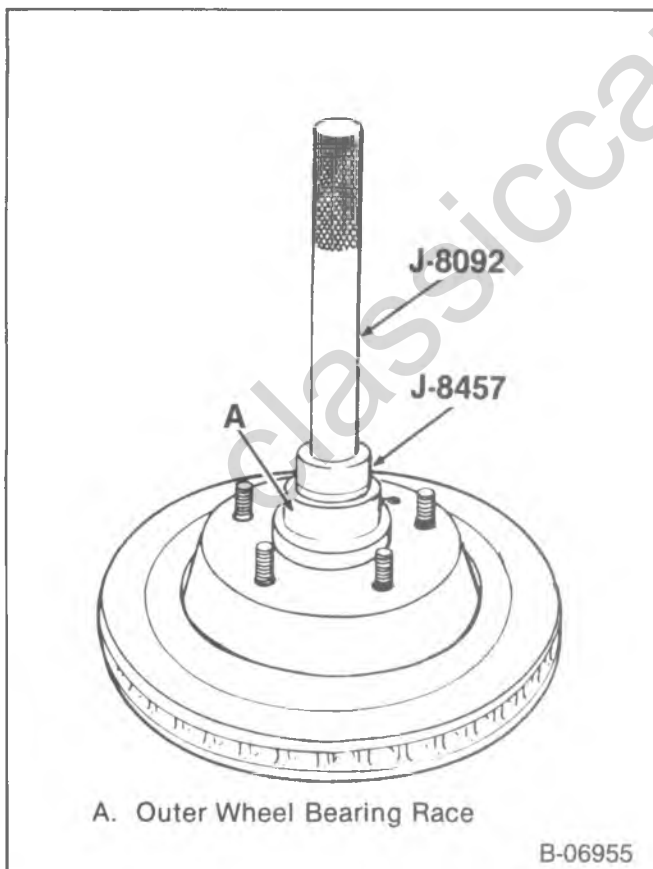

Figure 12—Installing the Outer Wheel Bearing Race
1. Races (72, 75) into the hub/rotor (81).
- Use J-8457 to drive the outer bearing outer race (75) into position (figure 12).
- Turn over the hub/rotor, remove J-9746-02, and drive in the inner bearing outer race (82) with J-8449.